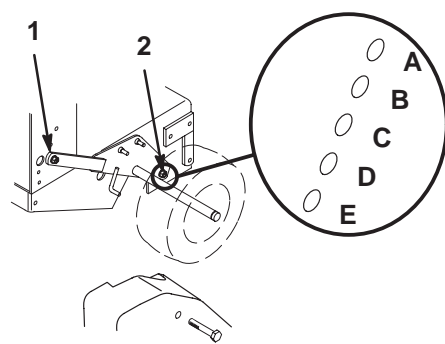

Figure 20
1. Stop engine, remove spark plug wire(s) and belt guard (Fig. 20).
2. Loosen but do not remove the (2) axle pivot bolts and the (2) axle adjustment bolts (Fig. 20).
3. Place a jack under the rear center of the engine frame. Raise the back end of the engine frame up enough to remove front (2) axle adjustment bolts (Fig. 20).
4. Raise or lower the engine frame with the jack, so that front (2) axle adjustment bolts can be installed in the desired hole location (Fig. 20). A tapered punch can be used to help align the holes.
5. Tighten all (4) bolts and lower the unit.